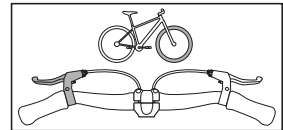

Fig. 1: Brake lever assignment
- ↳ Familiarize yourself with the brake lever assignment. The right brake lever acts on the rear wheel brake and the left brake lever acts on the front wheel brake (see Fig. 1).